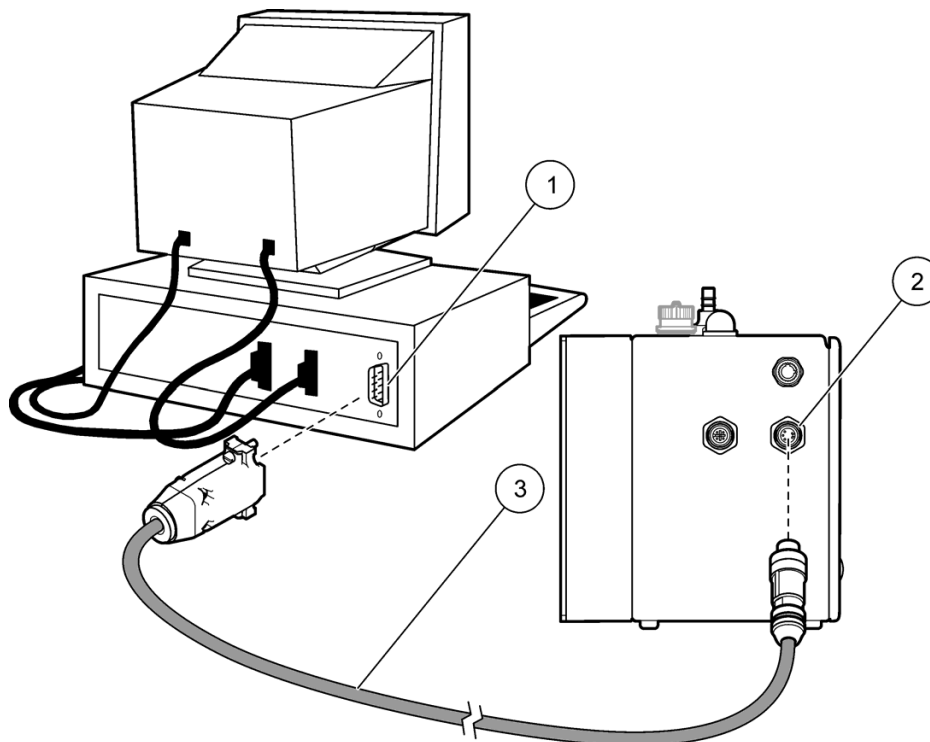

Figure 16 Particle counter connection to PC
3. Connect the particle counter to the PC as shown in Figure 16.